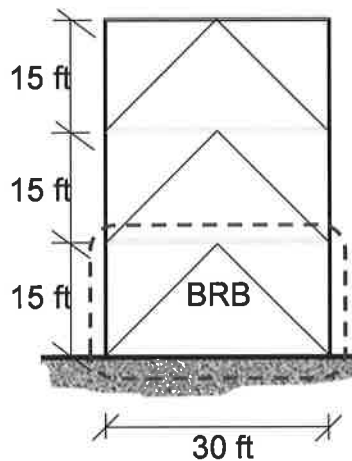

Figure 2
3. A BRB frame system is shown in Figure 2. We need to design the BRBs in the marked story. Considering seismic force only, we use 500 kips as the seismic design base shear. Assume the BRBs are pin-connected on both ends and takes 80% of the story shear.